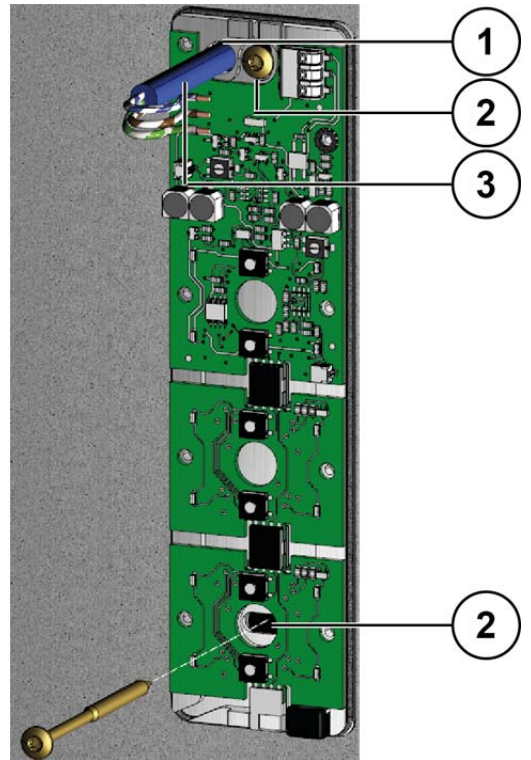

Fig. 3: Assembling the rear panel
- ▶ Guide the connection cable (3) through the cable gland (1) of the rear panel (Fig. 3).
- ▶ Fix the rear panel with 2 screws (2) to the wall.